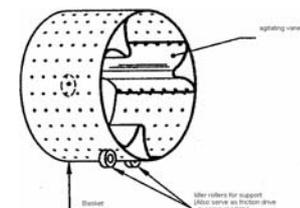

Fig.12.6 - Tumbling washing tub
**Tumbler washing tub technique:** This technique is used in Front loading type washing machine. In this type, washing is carried out by tumbling the clothes with the help of a simple cylindrical drum as shown in Fig.12.6. Here the construction is simple and clothes are tumbled around the drum by virtue of the drum itself being rotated by means of a pulley at the rear or the friction drive of the idlers.